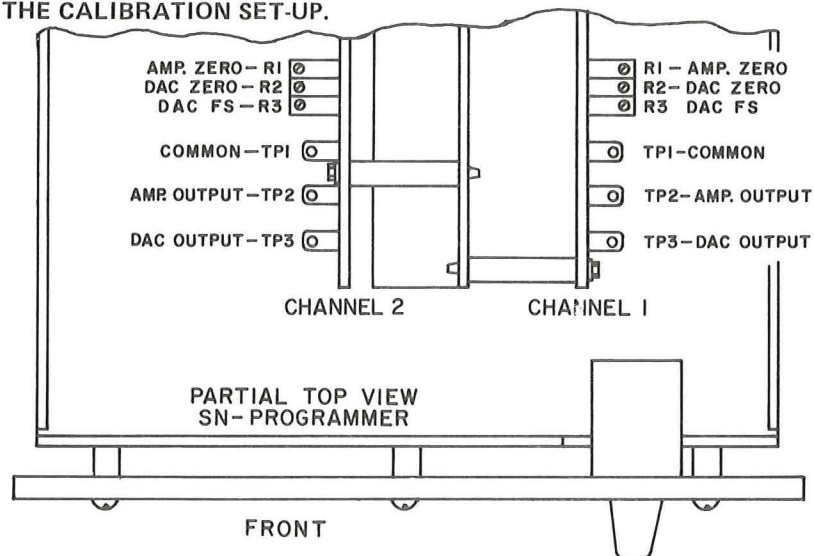

FIG. 3-8 LOCATION OF TEST POINTS AND CALIBRATION CONTROLS,
- B) Refer to Fig. 3-8 for the location of TEST POINTS and CALIBRATION CONTROLS. Proceed as directed on the FLOW-CHART, Fig. 3-9 and Fig. 3-10.